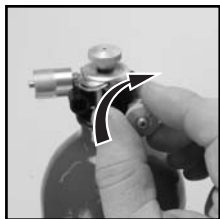

FIG. 12
- Make sure all FUEL VALVES are fully "OFF" (Fig 12, 13, and 14).